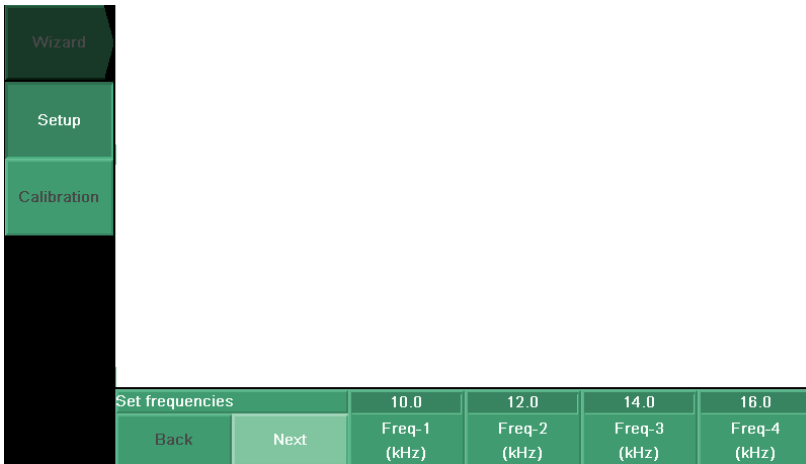

Figure 3-5 Setting the frequencies
2. In the **Nbr. Freq.** parameter field, enter the number of frequencies to set up. A maximum of eight frequencies are available (see Figure 3-5 on page 38).